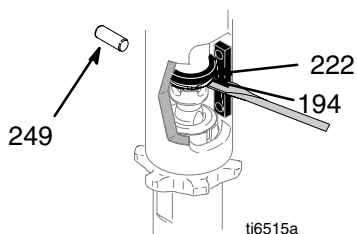
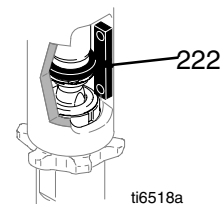

Fig. 12
Fig. 15
4. Fig. 12. Push magnet ring (222) up. Push retaining spring (194) up. Push out pin (249).
2. Fig. 15. Slowly pull engine starter rope until pump rod pin hole is aligned with hydraulic rod hole. Fig. 12. Push pin (249) into hole. Push magnet ring (222) down. Push retaining spring (194) into groove.